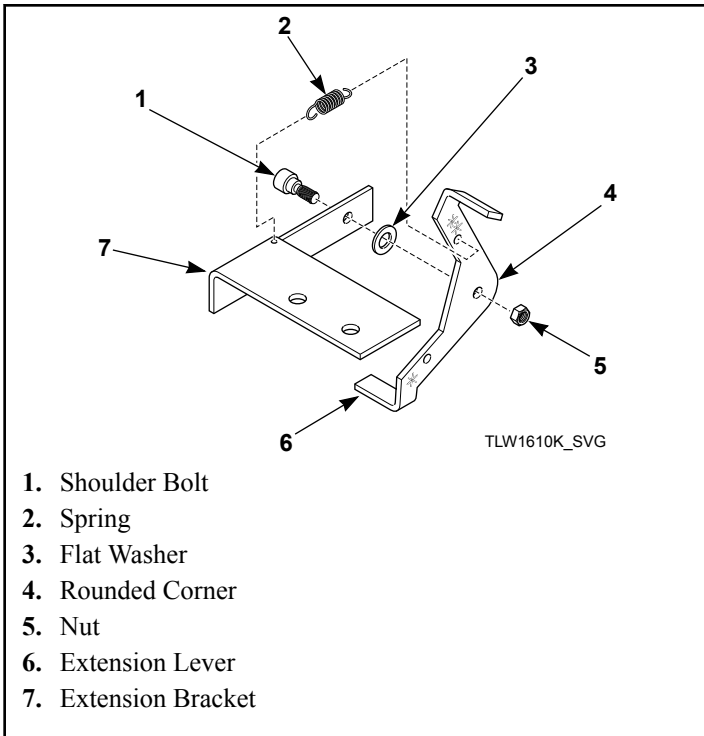

Figure 15
3. Install extension lever with rounded corner facing away from extension bracket using shoulder bolt, flat washer and nut. Refer to *Figure 15*.
4. Install spring to extension bracket with hook facing down. Install other end of spring to extension lever with hook facing left while standing in front of unit. Refer to *Figure 15*.